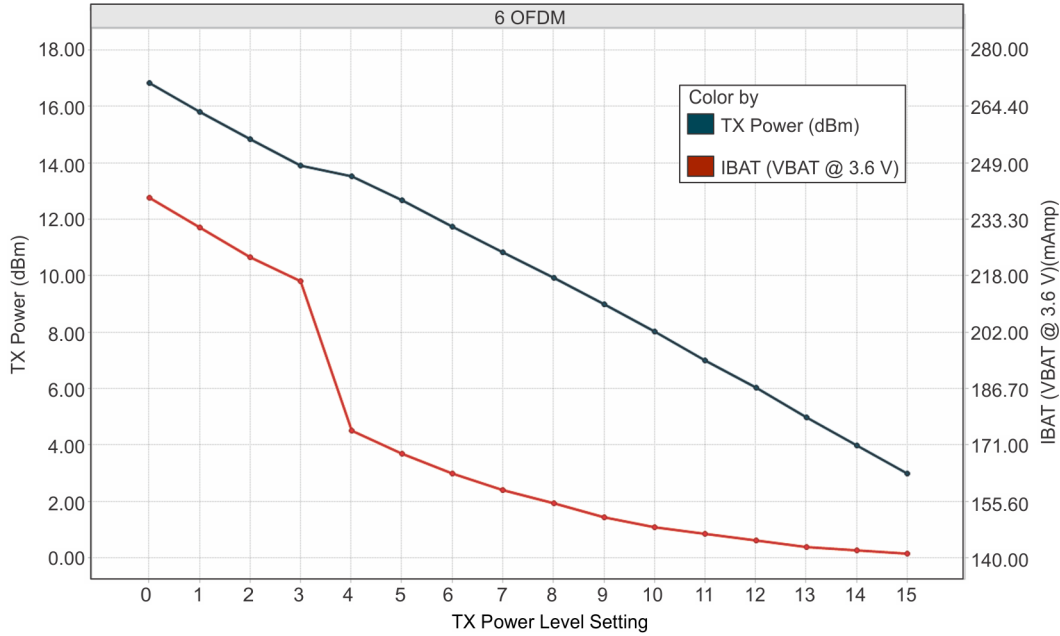
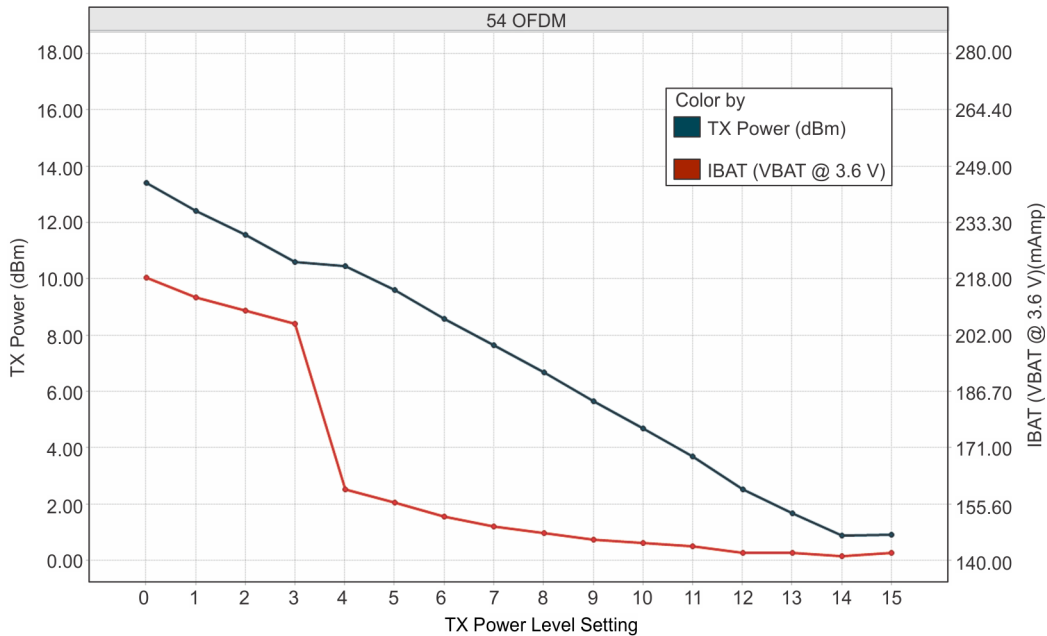

Figure 4-2. TX Power and IBAT vs TX Power Level Settings (6 OFDM)
Figure 4-3. TX Power and IBAT vs TX Power Level Settings (54 OFDM)
- (1) TX power level = 0 implies maximum power (see Figure 4-1, Figure 4-2, and Figure 4-3). TX power level = 4 implies output power backed off approximately 4 dB.
- (2) The CC3135MOD system is a constant power-source system. The active current numbers scale based on the  $V_{\text{BAT}}$  voltage supplied.
- (3) The RX current is measured with a 1-Mbps throughput rate.
- (4) DTIM = 1
- (5) The complete calibration can take up to 17 mJ of energy from the battery over a time of 24 ms. In default mode, calibration is performed sparingly, and typically occurs when re-enabling the NWP and when the temperature has changed by more than  $20^\circ\text{C}$ . There are two additional calibration modes that may be used to reduced or completely eliminate the calibration event. For further details, see CC31XX SimpleLink™ Wi-Fi® and IoT Network Processor Programmer's Guide.
- (5) The complete calibration can take up to 17 mJ of energy from the battery over a time of 24 ms. In default mode, calibration is performed sparingly, and typically occurs when re-enabling the NWP and when the temperature has changed by more than  $20^\circ\text{C}$ . There are two additional calibration modes that may be used to reduced or completely eliminate the calibration event. For further details, see CC31XX, CC32XX SimpleLink™ Wi-Fi® and IoT Network Processor Programmer's Guide.